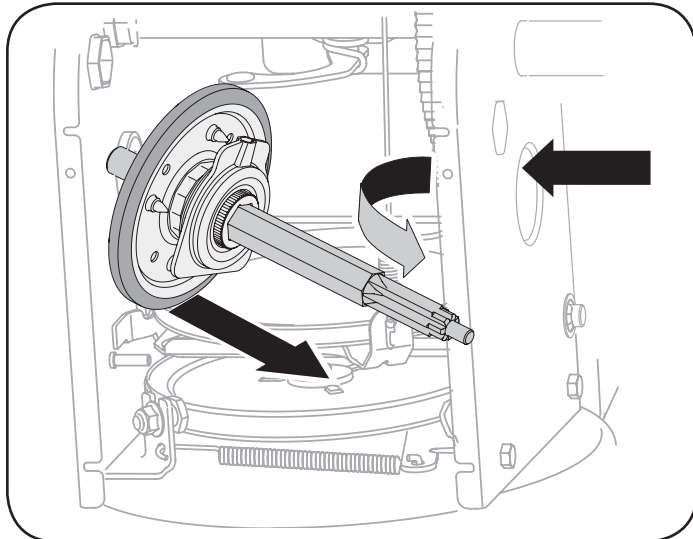

Figure 74
7. Carefully position the hex shaft downward and to the left before carefully sliding the friction wheel assembly off the shaft. See Figure 74.